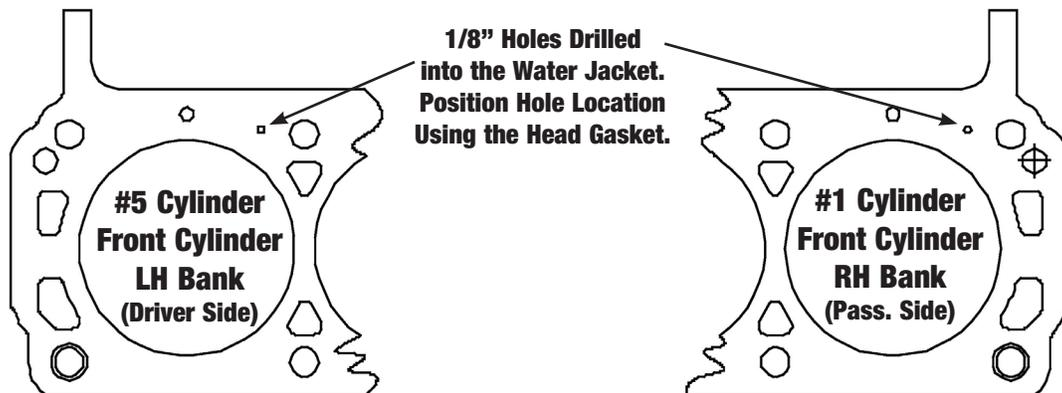

Figure 2 - Steam Hole Locations for Early 289 & 302 Engine Blocks (Pre-1972)
1. Check the upper deck to see if you have an early or late model block (not needed with 351W): a) Late model 289-302 blocks have the water passages located next to the head bolt location on the deck of the block (This block **will not** require drilling). b) Early 289-302 blocks, pre-1972, will have the water passages located directly over the cylinder upper deck area and will require drilling 1/8" steam holes as shown in Figure 2.